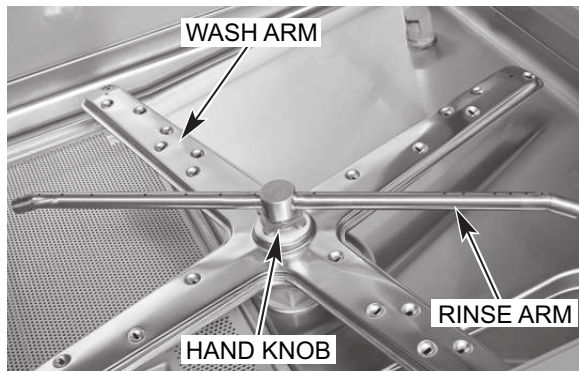

Fig. 21
7. Ensure upper and lower wash and rinse arms (Figs. 21, 22) rotate freely and are free of any obstructions. If not, remove arms and clear out any obstructions. Refer to Maintenance, page 30. **NOTE:** All PW20n models have two sets of upper and lower wash and rinse arms.